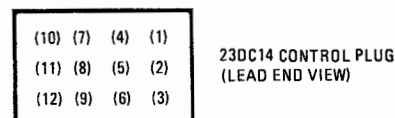

FIG 2
- In the 23DC14 control plug (Fig. 2) these changes should be made: